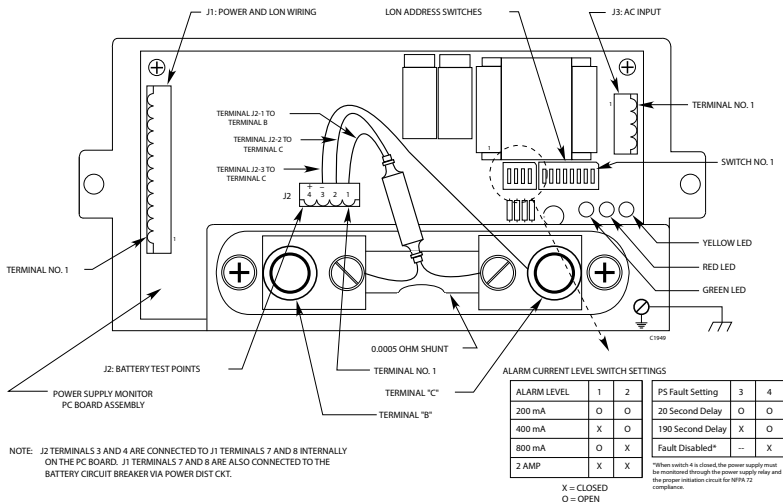
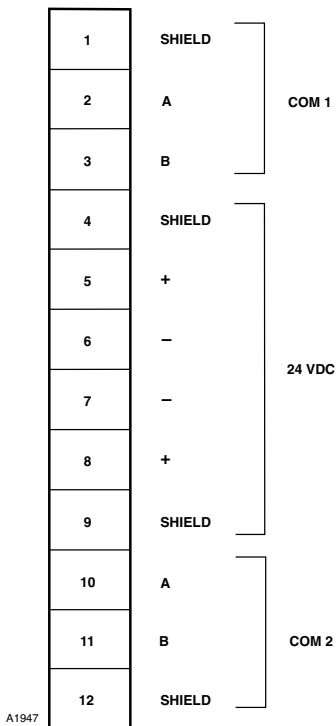

Figure 3-14—Power Supply Monitor Terminal and Switch Location
Figure 3-15—J1: Power and LON Wiring Terminal
The Power Supply Monitor uses two of the four DIP switches to select an appropriate fault level for the installation. See Figure 3-14. The unit will fault when the batteries source a current level higher than the threshold for 190 seconds. The fault will clear when the current drops to half the level for 190 seconds. The current level selection is based on the minimum current draw of the attached equipment. The selected value must be less than the actual minimum current draw for the EQP System.
4. Connect external wiring to the appropriate points on Power Supply. Refer to Figure 3-14 for terminal block locations and Figures 3-15, 3-16, and 3-18 for terminal identification. Connect the 24 Vdc power wires and the LON network cable to the appropriate points on J1. (Redundant "+," "-", and shield terminals are connected internally.)
- Connect a two wire cable between the AC input of the power supply and terminals 1 and 4 on J3, the AC input terminal block on the power supply monitor. See Figure 3-14.
Measure the battery voltage at terminals 3 and 4 of terminal block J2. See Figure 3-14 and 3-18.